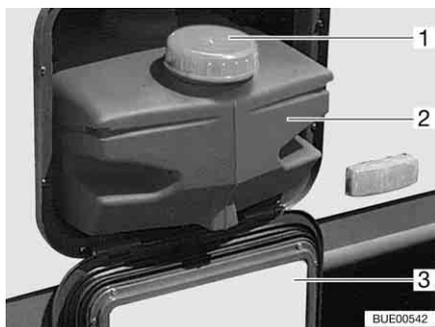

Fig. 162 Water tank 22 l
When transporting the water tank, close it with the cap (Fig. 162,1).
- Open service flap (Fig. 162,3) (see chapter 6).
- Pull out the water tank (Fig. 162,2).
- Pull out the water tank (Fig. 162,2) and empty it.